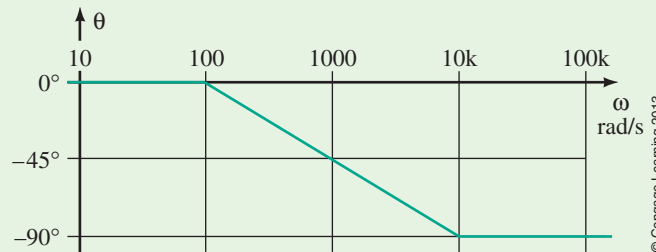

FIGURE 22-14
d. The phase shift response is shown in Figure 22-14.